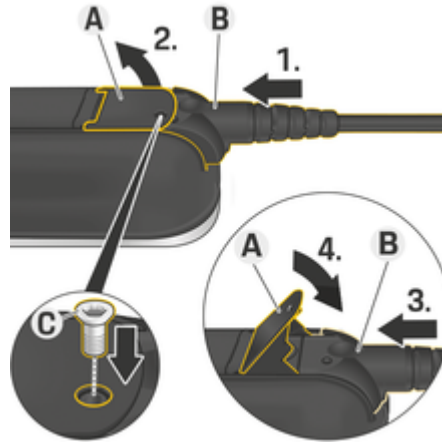

Fig. 12: Fastening cable and fixing plug
- ✓ Lever **A** (Fig. 12) is closed.
1. Push plug **B** (Fig. 12) into the operator control unit until the first resistance.
2. Raise lever **A** (Fig. 12).
3. Insert plug **B** (Fig. 12) completely.
4. Close lever **A** (Fig. 12).
5. Fasten plug **B** (Fig. 12) onto the operator control unit using screw **C** (Fig. 12).